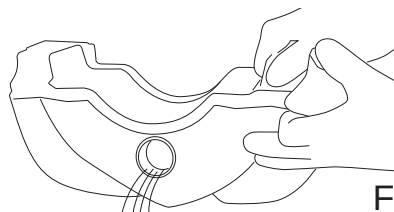

Fig.24
- Empty the contents of the tank by way of the front opening (fig. 24).